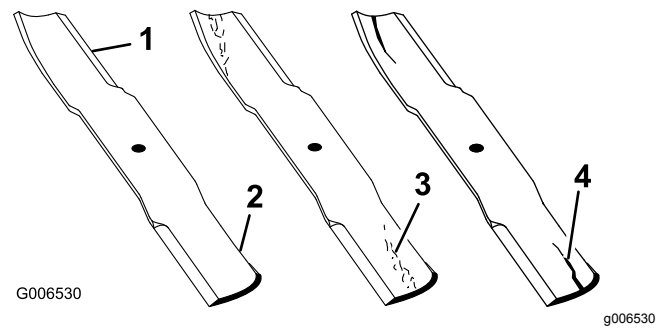

Figure 87
1. Inspect the cutting edges (Figure 87).
4. If you notice any cracks, wear, or a slot forming in this area, immediately install a new blade (Figure 87).